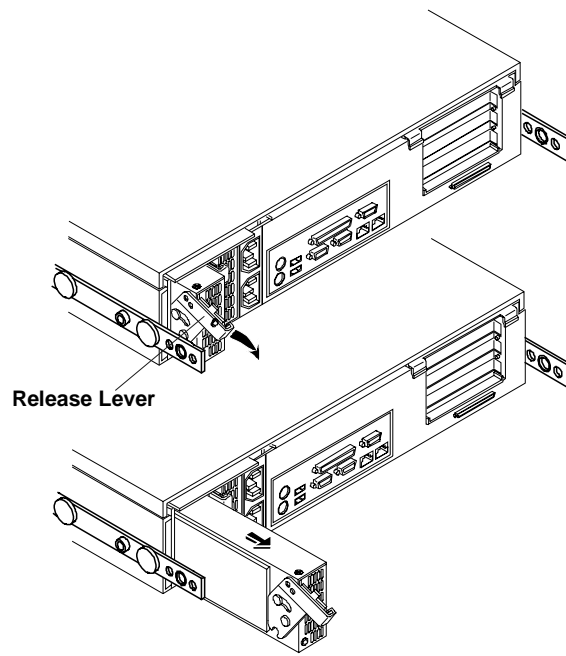

Figure 9-6. Removing a Power Supply Module
- Pinch the release lever on the power supply module and pull on the lever to slide module out of the power bay. See Figure 9-6.